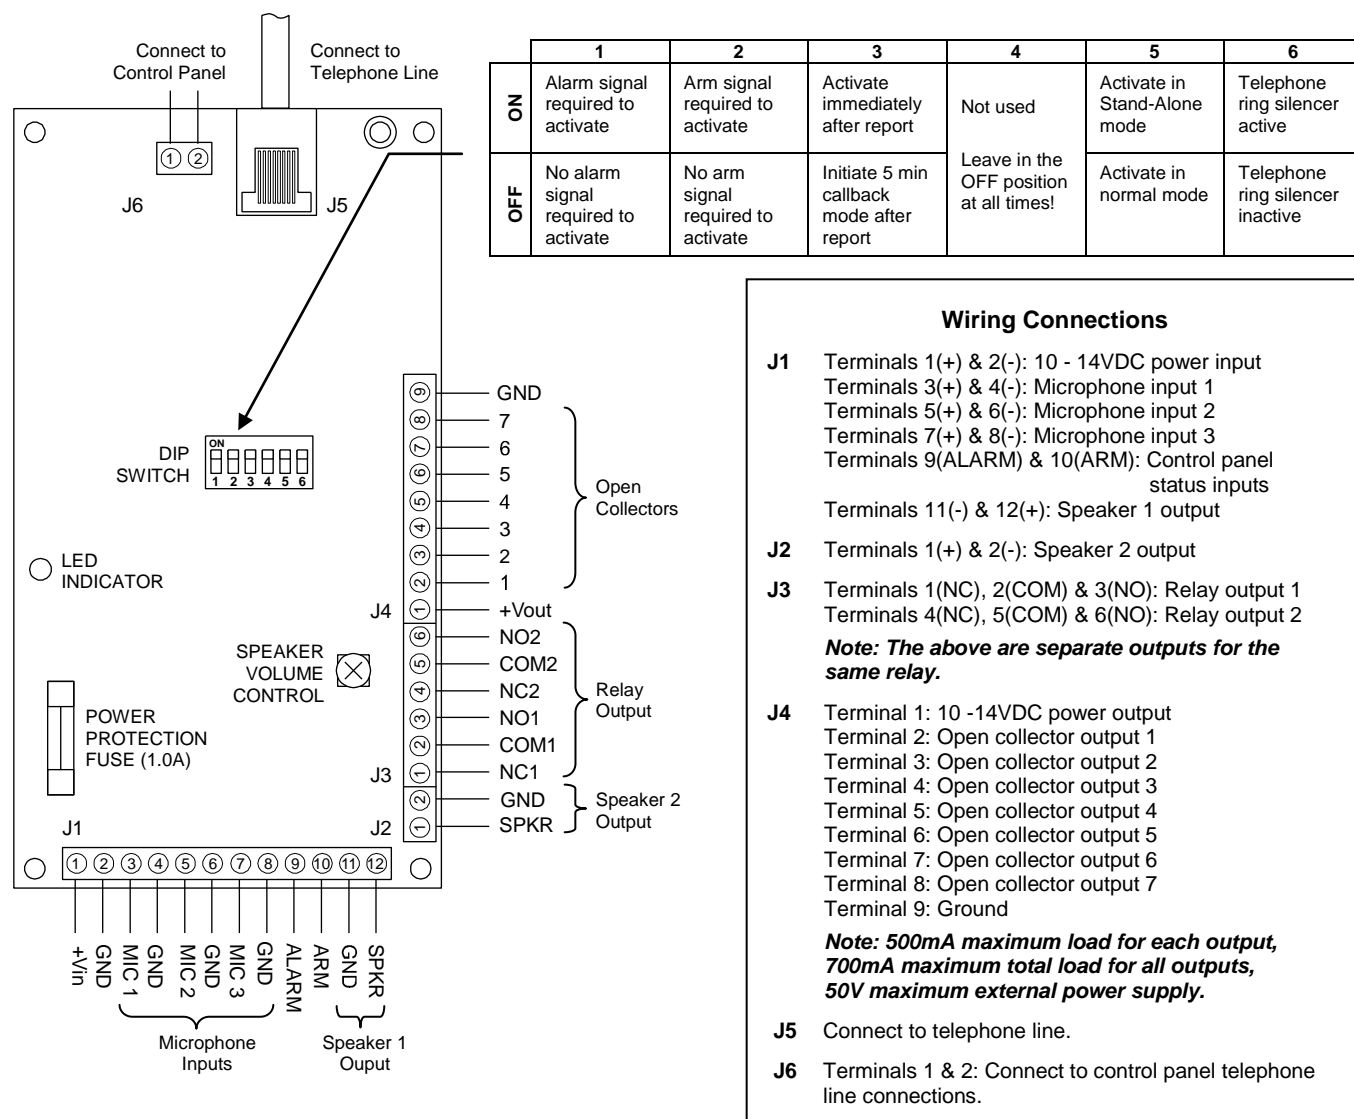

Figure 1: 3622 Layout and Wiring Connections
4. Make all the required wiring connections according to Figure 1.